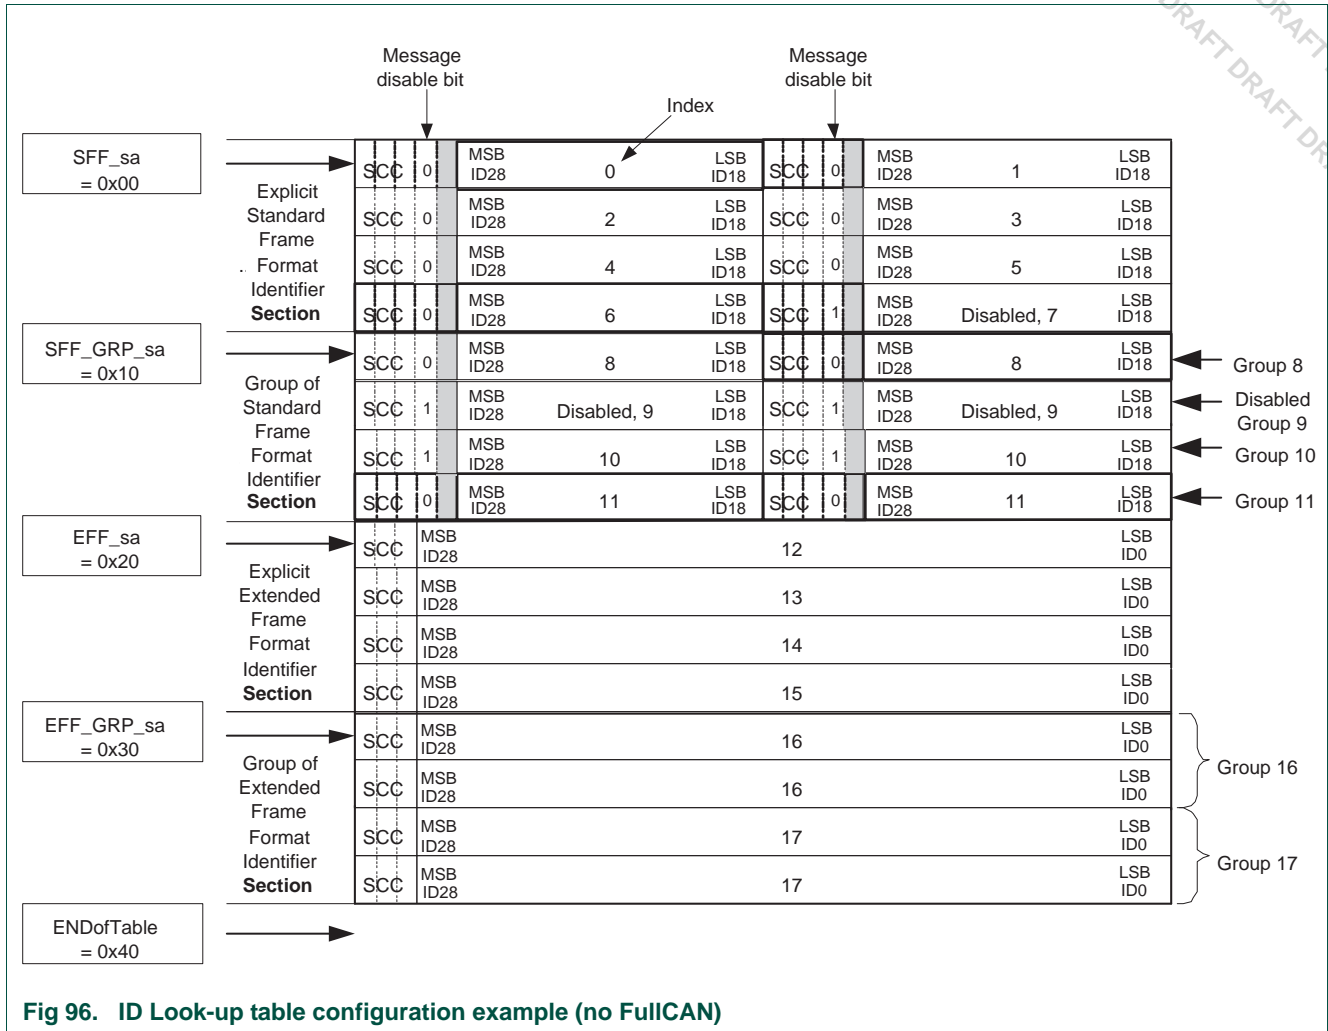

Fig 96. ID Look-up table configuration example (no FullCAN)
The Table below shows which sections and therefore which types of CAN identifiers are used and activated. The ID-Look-up Table configuration of this example is shown in Figure 96.
**Explicit extended frame format identifier section (29-bit CAN ID, Figure 96)**
**Group of extended frame format identifier section (29-bit CAN ID, Figure 96)**